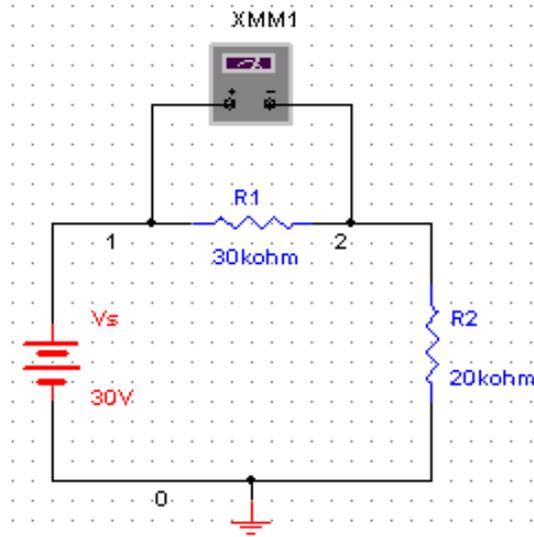

Figure. 14: **Multimeter** connection for voltage measurement
- b. Click on **Multimeter** icon. Now click in the workspace to place the **Multimeter**. Drag it and place it near resistor  $R_1$  as shown in Fig. 14. Make a connection from '+' terminal of **Multimeter** to the left pin of  $R_1$  and from '-' terminal to right pin of  $R_1$ . Note that reversal of + and - terminals will give opposite readings.